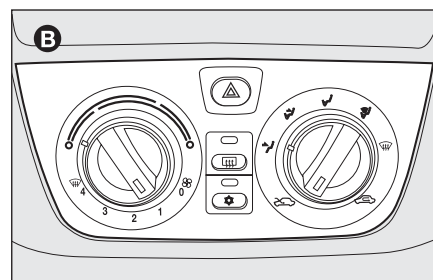

fig. 6
- ☐ with manual climate control system **B**-**fig. 6**;